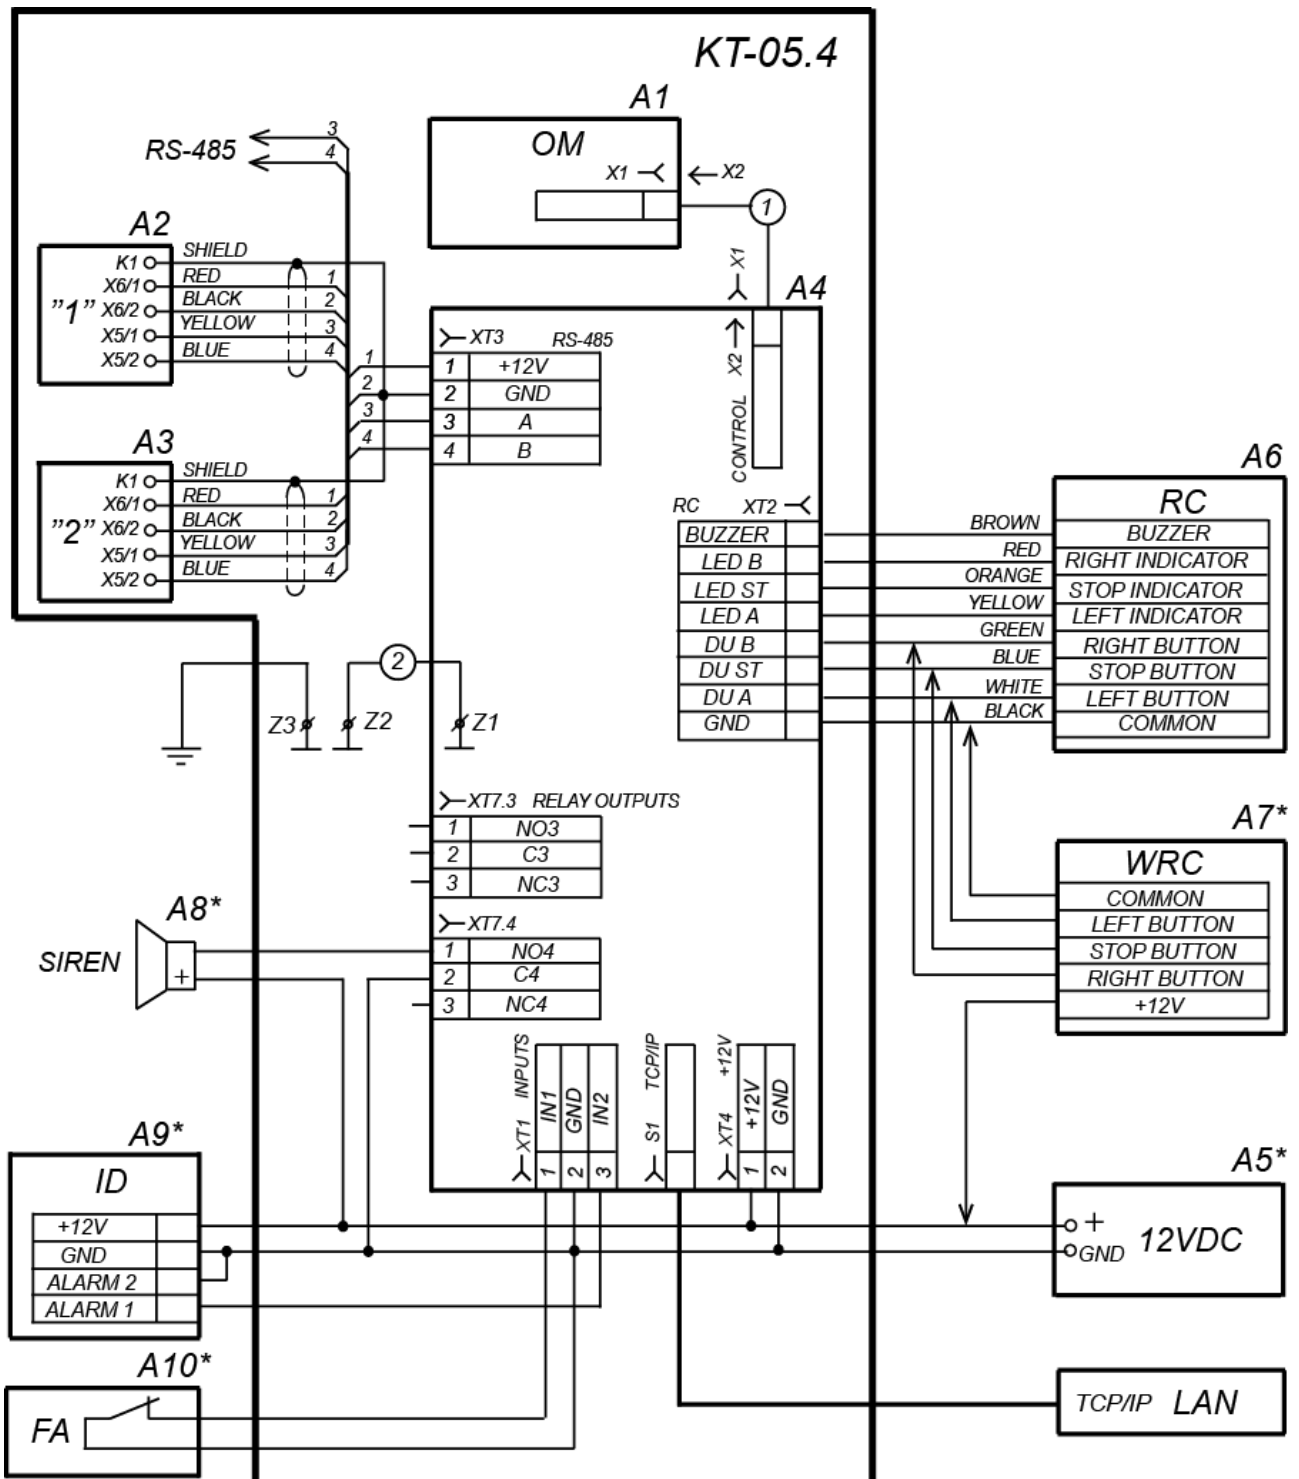

Figure 12. Connection layout for KT-05.4 and optional equipment ¹
referred to as A1-A5 in Figure 12
The connector block position on the IP-Stile controller board is shown on Figure 5. Connector block layout is shown in Table. 1. Connection layout is shown on Figure 12. Types of cables are stated in Table. 5. Follow this sequence during reader installation:
12. Connect the power cable (15) to the **XT4** connector block on the reader board. Connect the cable of the remote control panel (12) to the **XT2** connector block as per Figure 12. If necessary, connect cables of other devices to the corresponding connector blocks.